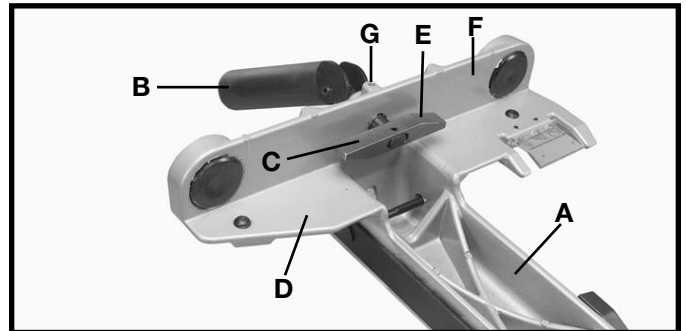

Fig. 62
1. Turn fence body (A) Fig. 62, upside down and lay it on a table or bench. Rotate the handle (B) to the left till it stops in the positive indent. The clamp bracket (C) should be parallel to surface (D) of the fence body. Pull the handle (B) out till the clamp bracket (C) contacts surface (F) of the fence body. If necessary pivot the clamp bracket till it is parallel to surface (F). Push the handle (B) back in, but do not rotate it.
2. Turn the fence body (A) Fig. 62, upside down and lay it on a table or bench. To make the indents feel more positive tighten the set screw (G), to make the indents less positive loosen the set screw (G).